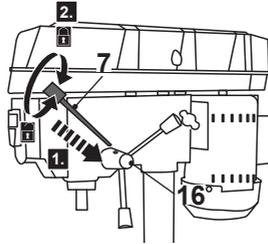

Fig. 4
1. Screw the three feed handles (7) clockwise onto the spindle feed head (16) (Fig. 4).